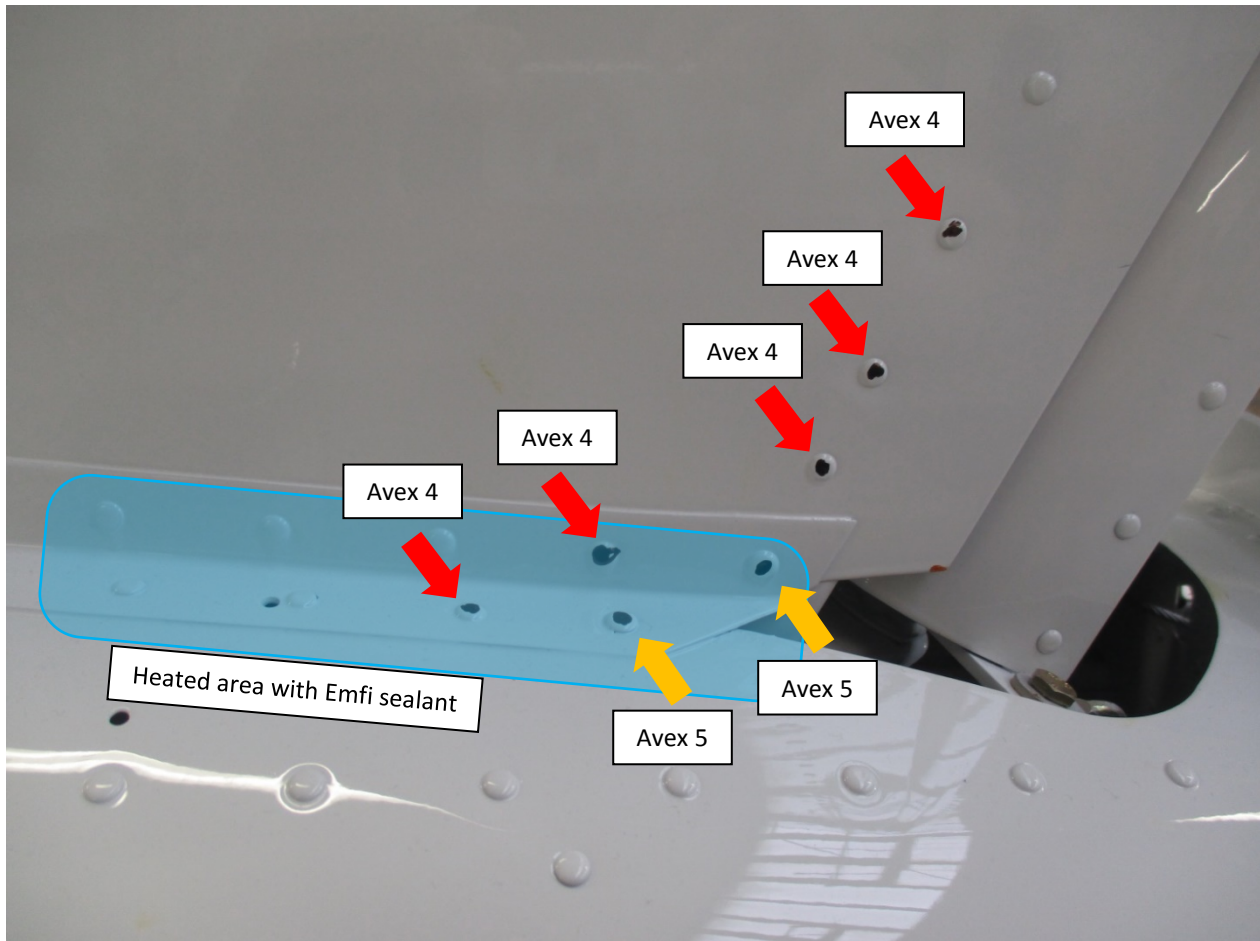

Fig. 1: Marked rivets to be drilled out
3. Drill out the rivets both sides (SC_MM-1-0-00, Chapter 15.2). All drilled rivets are marked on the picture (Fig. 1). Rivets marked as Avex 4 with drill bit D3,2 mm and Avex 5 with drill bit D4,1mm.
9. Drill the holes, D3,2 mm for Avex 4 and D4,1mm for Avex 5, see Fig. 1.
13. Gradually rivet (SC_MM-1-0-00, Chap 15.3) the rivets Avex 4-10 pcs. and Avex 5-4 pcs. See Fig. 1.